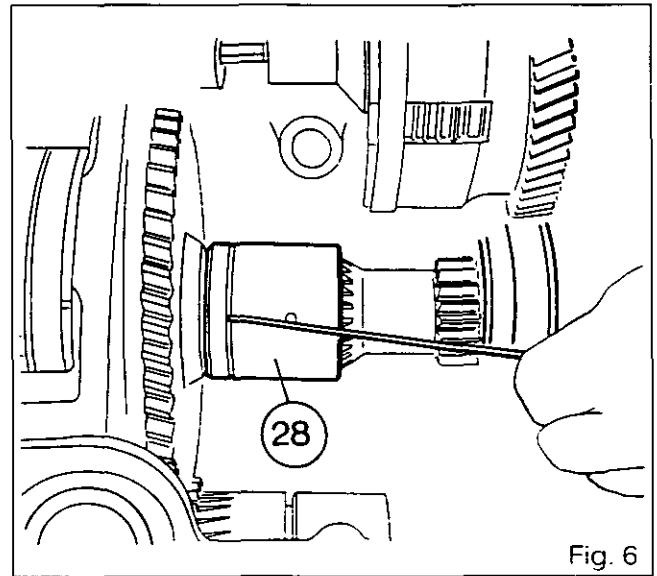

Fig. 6
**If carrying out work on the gears (31).**
39. Refit the gear (31).
40. Refit the circlip (30).
42. Refit the gear (31).
43. Refit the circlip (30).
44. Refit the assembly (connecting shaft and sleeves), then position the sleeves (27) and (28) on the shaft (29).
45. Mount the double pins (26) and (25) on the sleeves.
**Note: Position the grooved end of the sleeve (28) towards the rear of the tractor (Fig. 6). Replace the pins. The long pin is fitted into the sleeve (27).**